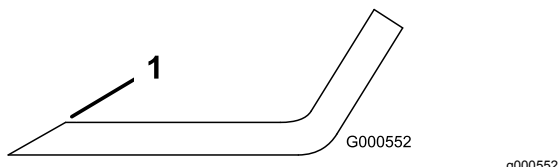

Figure 107
Note: If the blade is not balanced, file some metal off the end of the sail area only (Figure 107).
1. Use a file to sharpen the cutting edge at both ends of the blade (Figure 107).